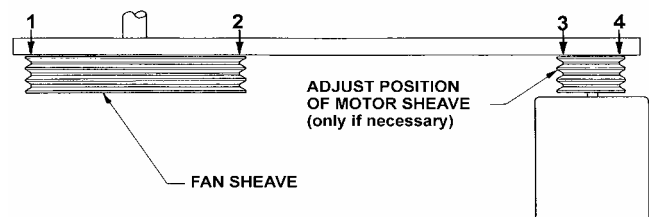

Figure 17 - Sheave Alignment Check
9. As a final check, lay a straight edge from sheave to sheave. There should be four point contact. (See Figure 17.) Adjust the position of the motor sheave as necessary.
Check the strainers, if applicable, in the basin section to make certain they are in the proper location over the pump suction, along side of the anti-vortex hood. (See Figure 17.)